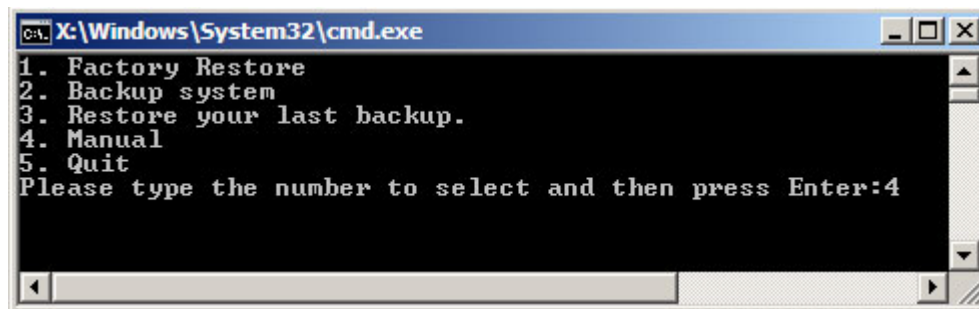

Figure A-11: Recovery Tool Menu
**Step 2:** The recovery tool menu appears. Type <4> and press <Enter>. (**Figure A-11**)